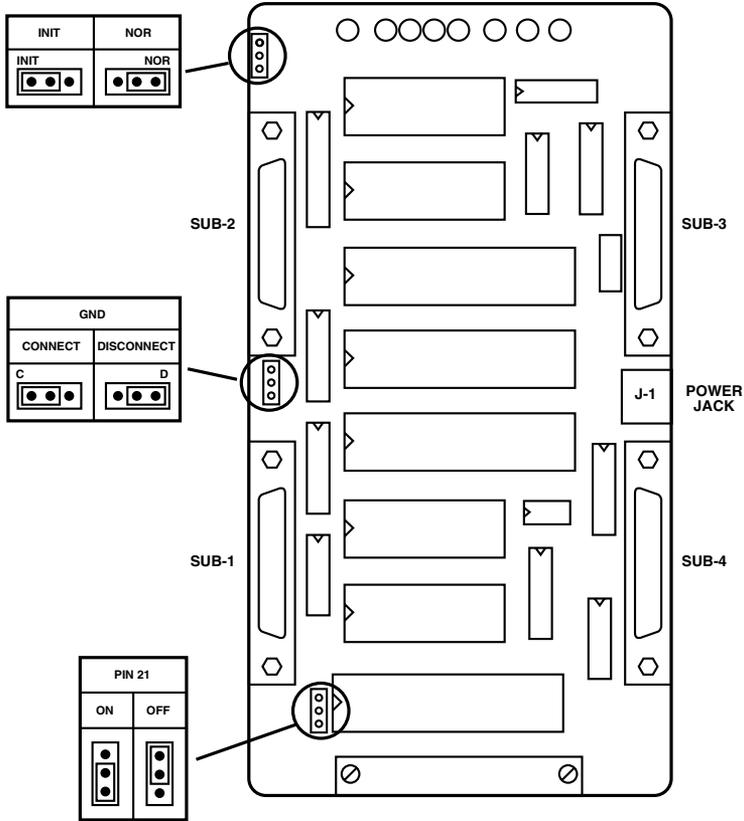

Figure 3-1. Identification of internal jumpers.
The MiniStat-Four has three internal jumpers. Refer to Figure 3-1 and to the following descriptions.
3. Refer to Figure 3-1 on the next page and identify the jumper locations and settings. Change the settings of your mux's jumpers as required.